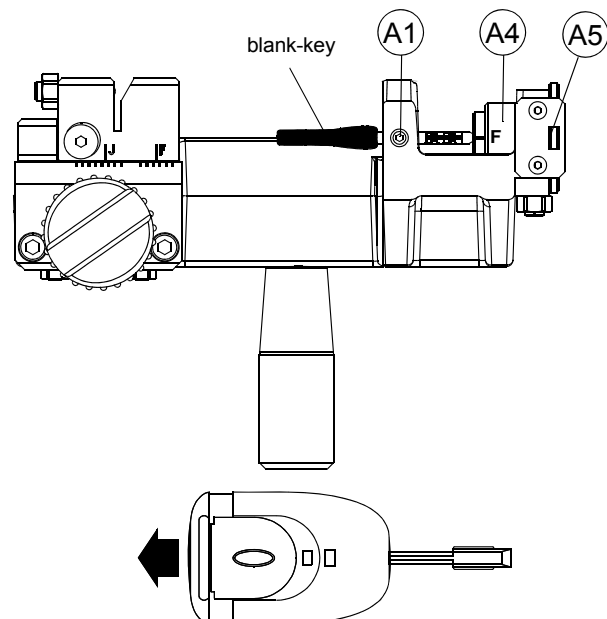

Fig. 15
ATTENTION: when cutting original FORD keys with lights, before locking into the clamp detach the part containing the electrical devices, otherwise the head is too big (fig.15).
- 1) place the key blank tip into the rotating clamp (A) and push up against the tip stop groove (A2).
- 2) continue to push, and check that the key is in the vertical position (fig.15) and the number "1" is visible in the window. If necessary, turn the key until it is properly positioned.